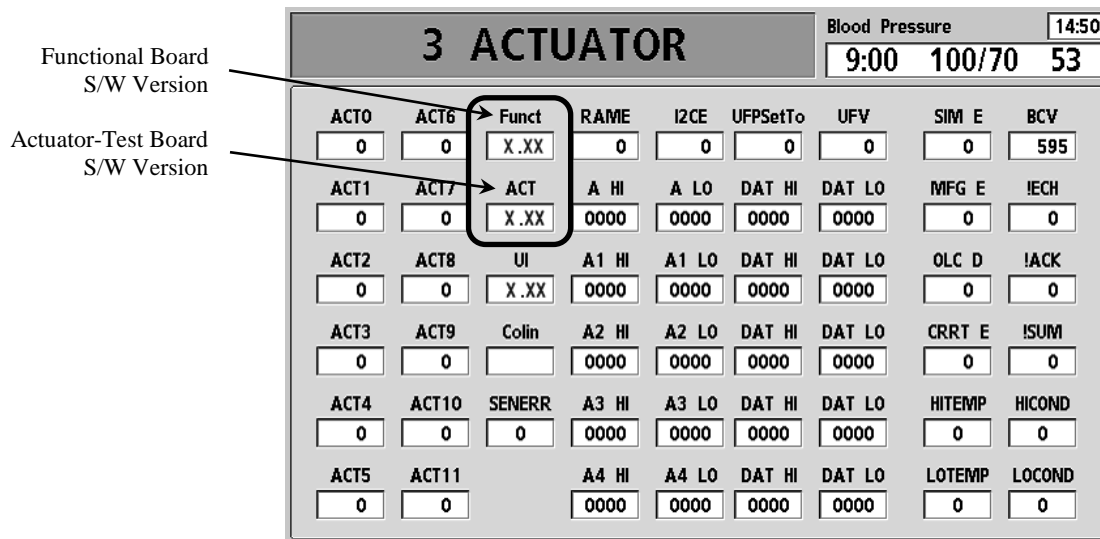

Figure 1
6. Using Figure 1 verify the Functional software version is 2.71 or greater and the Actuator-Test software version is 2.32 or greater. Press the Escape key to exit debug.